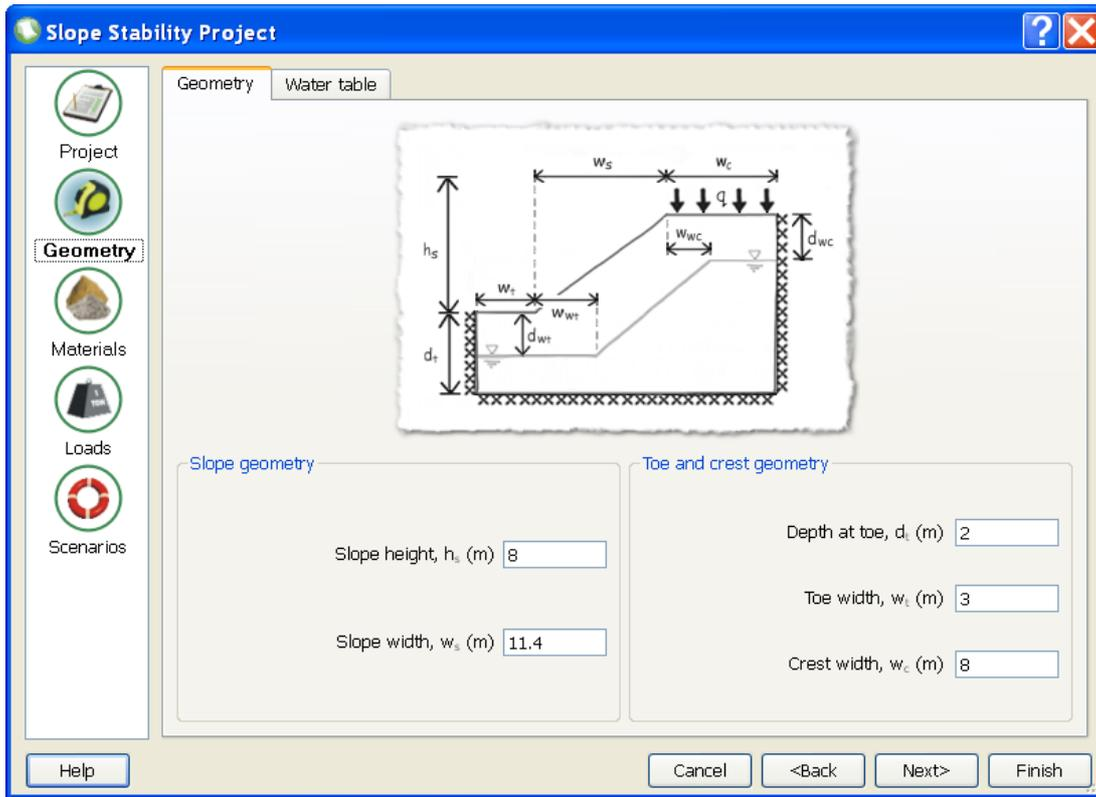

Figure 2: Slope stability wizard - geometry section
2. In the **Geometry** tab, set the problem geometry using the parameters shown in Figure 2. Click **Next>**.